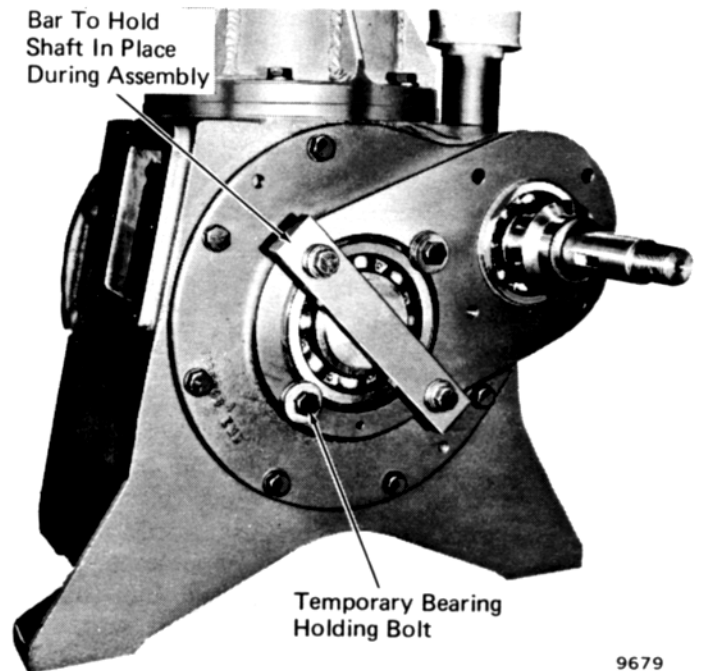

Fig. 13 - Temporary Bearing Holding Bolts
4. Insert the main drive shaft subassembly in the gear housing, and apply the bearing plate-to-gear case bolts. Temporarily apply two bearing cover bolts and wide washers 180° from each other as shown in Fig. 13. Turn the main drive gear (41) (35) Fig. 3, so the tooth marked "X" is at the top. Mark the tooth with a bright chalk so it can be easily seen when the fan support assembly and the mating vertical shaft drive gear (56) (47) are applied. Check angular alignment of the main shaft by placing dial indicator on coupling seat with the button on outer race of bearing, (53) (38). The maximum total runout of the shaft must not exceed .012".
9. If applicable, apply the bearing oil slinger, (52) Fig. 3A, adjacent to the bearing (53) at the coupling end of the main drive shaft, (42) Fig. 3A, (36) Fig. 3B. Fit the drive gear, (47) Fig. 3A or (40) Fig. 3B, and key to the shaft. Install a back-up bar, Fig. 13, at the opposite end of the main drive shaft so that the shaft will not be forced out of the bearing.